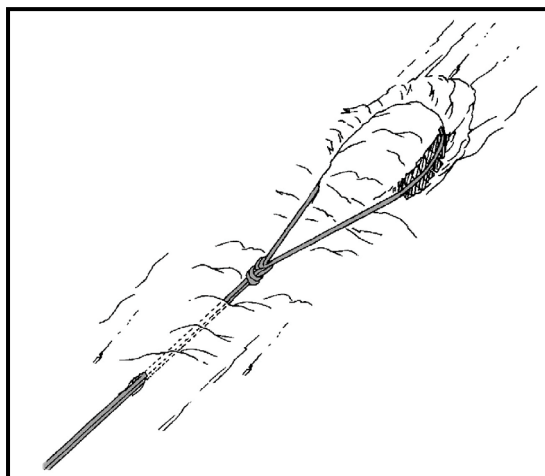

Figure 10-18. Horseshoe or bollard anchor.
(4) As with ice pitons, melting of the ice around a screw over a period of time must be considered. The effective time and or strength of an ice screw placement is limited. The screw will heat from solar radiation, or the ice may crack or soften. Solar radiation can be nearly eliminated by covering the screw with ice chips once it has been emplaced. If repeated use is necessary for one installation, such as top roping, the screws should be inspected frequently and relocated when necessary. When an ice screw is removed, the ice that has accumulated in the tube, must be removed before further use.
d. **Horseshoe or Bollard Anchor.** This is an artificial anchor shaped generally like a horseshoe (Figure 10-18). It is formed from either ice or snow and constructed by either cutting with the ice ax or stamping with the boots. When constructed of snow, the width should not be less than 10 feet. In ice, this width may be narrowed to 2 feet, depending on the strength of the ice. The length of the bollard should be at least twice the width. The trench around the horseshoe should be stamped as deeply as possible in the snow and should be cut not less than 6 inches into the ice after all rotten ice is removed. The backside of the anchor must always be undercut to prevent the rope from sliding off and over the anchor.
(1) This type of anchor is usually available and may be used for fixed ropes or rappels. It must be inspected frequently to ensure that the rope is not cutting through the snow or ice more than one-third the length of the anchor; if it is, a new anchor must be constructed in a different location.
(2) A horseshoe anchor constructed in snow is always precarious, its strength depending upon the prevailing texture of the snow. For dry or wind-packed snow, the reliability of the anchor should always be suspect. The backside of the bollard can be reinforced with ice axes, pickets, or other equipment for added strength.